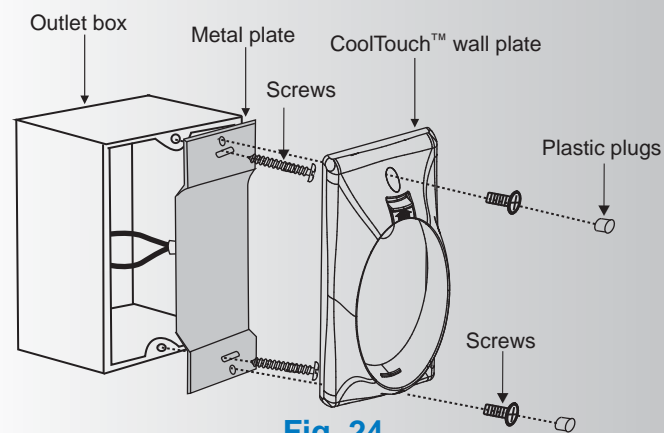

Fig. 24
Step 2. Install the metal plate and CoolTouch™ wall plate to the existing wall outlet box with 4 screws provided. Then place the two plastic plugs into the wall plate. (Fig. 24)